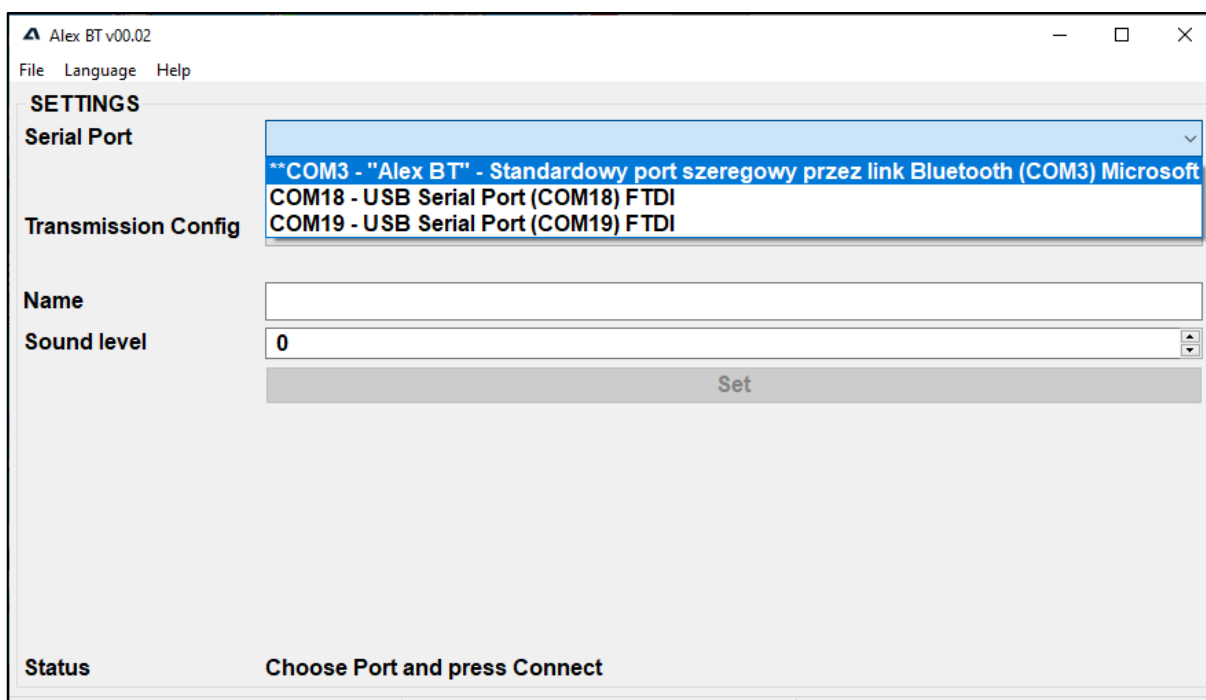

Fig. 11 Selection of the serial communication (COM) port in the ALEX BT configuration application.
1. Select the serial port of the desired ALEX BT interface (Fig. 11). The current device name is displayed next to the port number. **Attention! Changing the device name does not immediately change the name in the list of available COM ports. This name is updated by the operating system. Updating may be sped up by trying to find Bluetooth devices in the system again.**